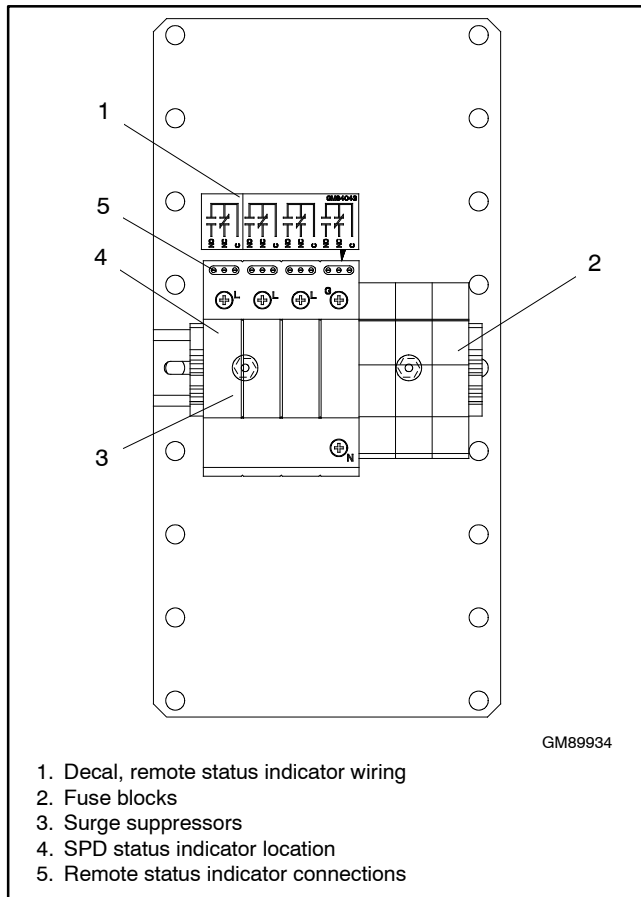

Figure 7-28 SPD Assembly, Typical
A status indicator on each Surge Protection Device (SPD) module indicates the SPD condition. See Figure 7-28. A green indicator shows that the SPD is providing protection. When the status indicator is red, the SPD no longer provides protection. Replace the SPD cartridge. See Section 7.11.3 for replacement instructions.
Connect customer-provided indicators or alarms to the normally open (NO) or normally closed (NC) auxiliary contact terminals on the remote status indicator connection terminal block. See Figure 7-29 for the contact rating and Figure 7-28 for the terminal block location. See the decal on the SPD assembly or the transfer switch wiring diagram for connections.